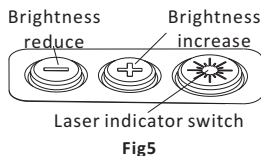

Fig5
The operation panel is on the top of sight(see fig5).Operation for Red Dot sight:
- 1) Switch On: One pressing on the brightness button "+" or "-" will start the sight for working condition(Fig 5).
The power button switch is on top of sight, as shown in Fig5, press one time , the laser is turned on, press again, it turn off.